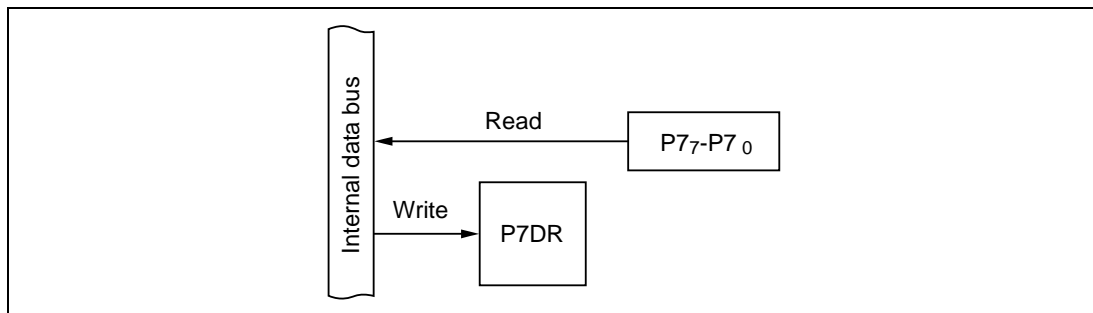

Figure 10-45 Input Port (Modes 1 to 7)
(1) Input Port (Modes 1 to 7): Figure 10-45 shows a block diagram illustrating the general-purpose input function. Table 10-35 indicates register read/write data. Values written in the port 7 data register (P7DR) have no effect on general-purpose input lines. When read, P7DR returns the value at the pin.